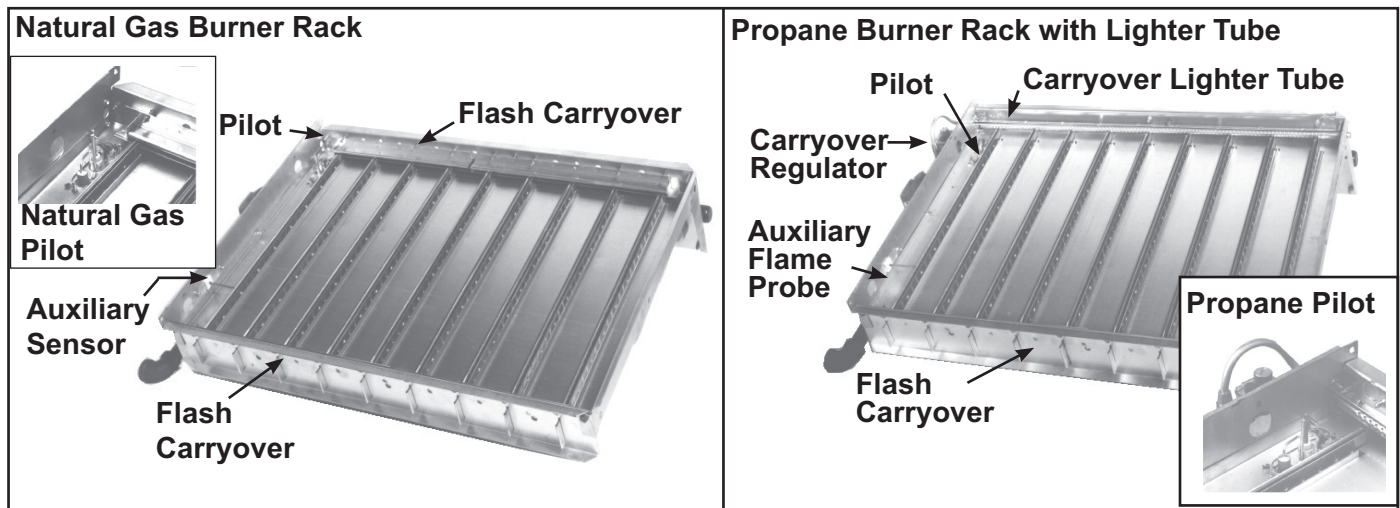

Figure 27. Typical Burner Rack with Pilot
- Typical natural gas and propane gas burner racks are shown in Figure 27.